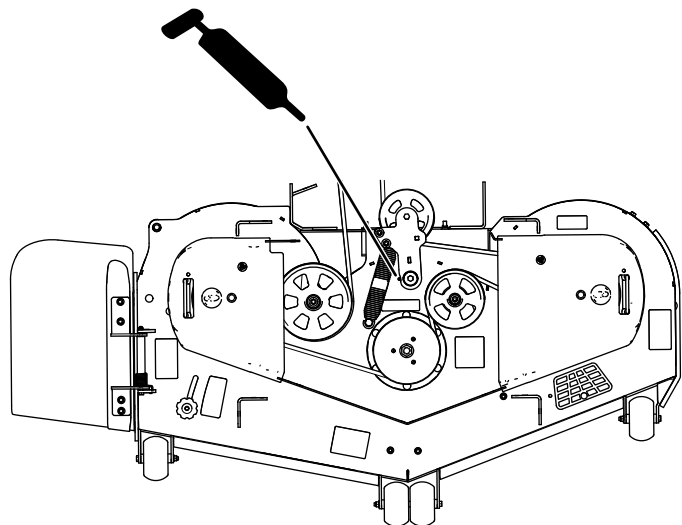
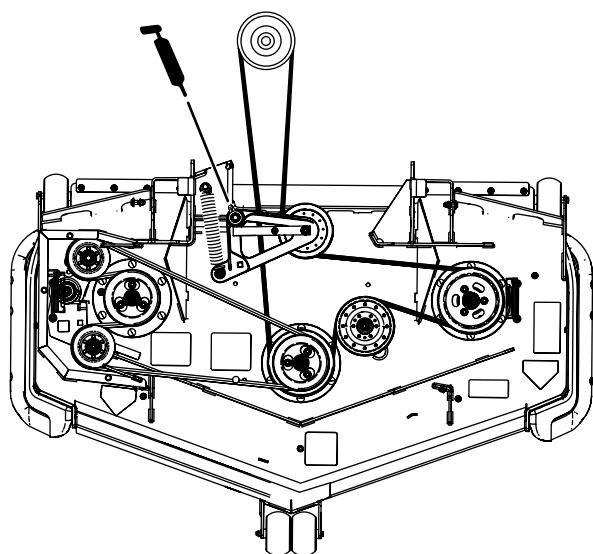

Figure 50
Figure 51
4. Grease the mower deck idler-pulley pivot until grease comes out the bottom (Figure 50 or Figure 51).